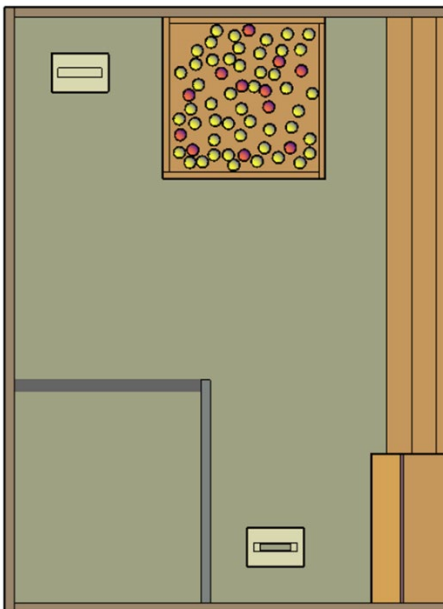

Figure 4: Sugar Shack Area
- E. "Maple Taffy Zone" is an area within the "Sugar Shack Area" where teams will make the "Maple Taffy", located at the bottom left corner of Figure 4.